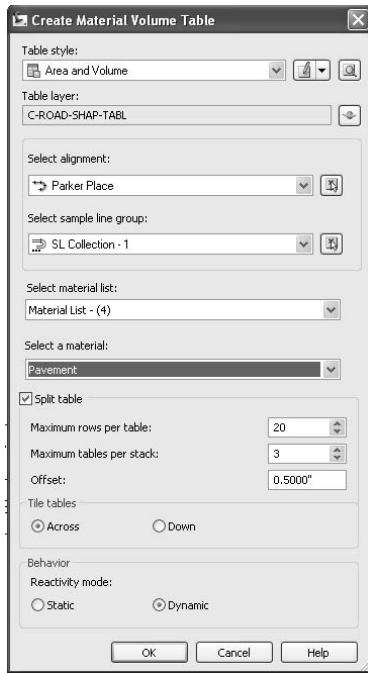

Figure 11.31
10. Make sure that Pavement is selected under Select Material, as shown in Figure 11.31. Click OK.